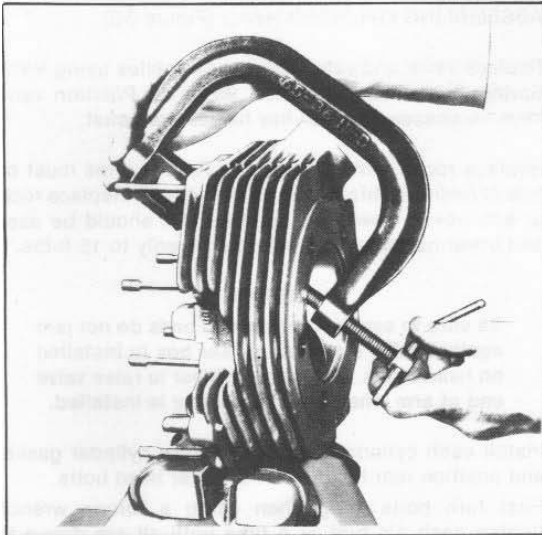

Figure 3-4. Compressing Valve Spring
Compress valve springs using Valve Spring Compressor, Part No. 96600-36, and remove valve keys (23) from ends of valve stems as shown in Figure 3-4. Mark keys to identify them with their respective valves. Remove valve spring collars (24 and 27), springs (25 and 26) and valves (28). Reassemble valves in same cylinder head from which they were removed. Before removing, mark valves in some manner to identify them with front and rear cylinder head.